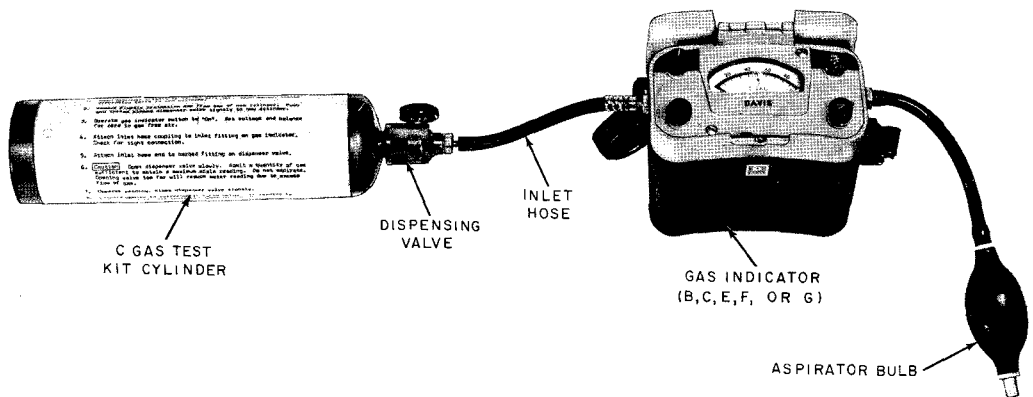

Fig. 2—C Gas Test Kit Ready for Use
(1) Turn on the gas indicator, set the voltage, and/or balance for zero in gas free air as covered in the appropriate Section (paragraph 1.04).
(2) Attach the gas indicator to inlet hose with the appropriate coupling for the type of gas indicator being used. The hoses are identified by the gas indicator letter code stamped on the hose coupling, such as B, C, etc.
(3) Check the hose for a tight connection.
(4) Slide the free end of the hose over the dispenser valve barbed fitting. The indicator is now ready for testing as shown in Fig. 2.